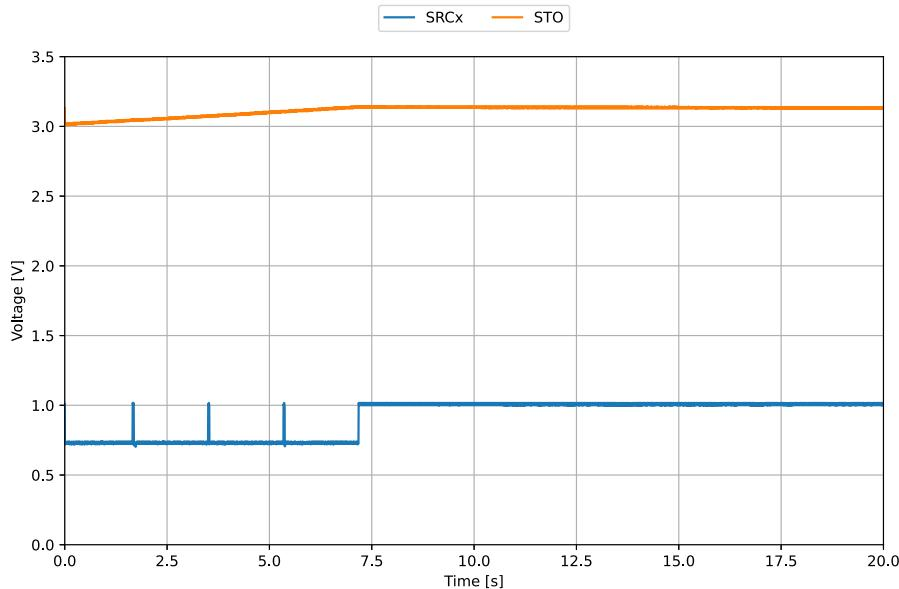

Figure 6: Storage element thermal protection behavior
- When R_{TH} is hot enough, above 45°C (near 7 s on Figure 6), the AEM13920 thermal protection is triggered: